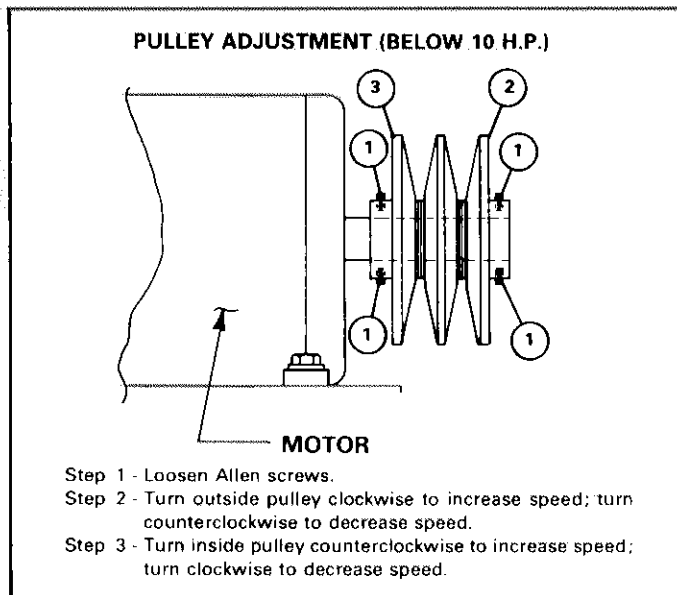

FIGURE 83
- 2 - Adjust blower drive to the speed (RPM) as instructed in Figure 83 or replace the pulley, whichever is necessary. 10 H.P. and 15 H.P. motors use fixed sheaves which must be replaced to change speed.